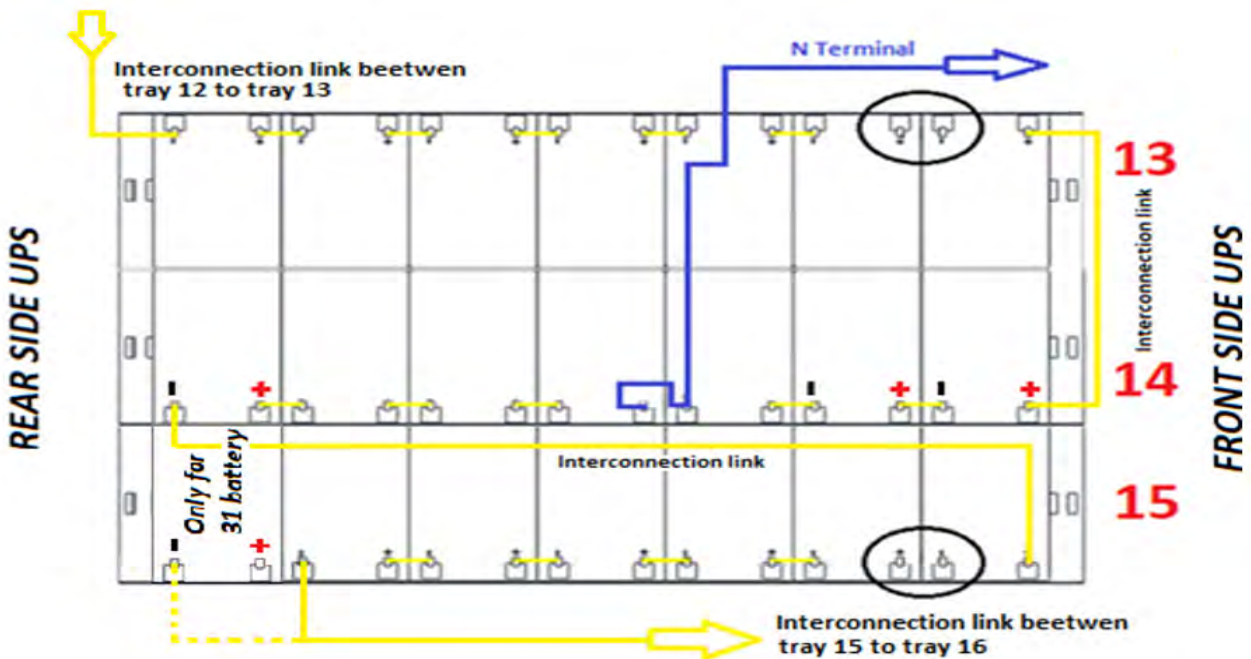

Figure 40 - View from above Level No.5 with battery connections
14) Wire the level as indicated in Figure 40. **Leave the circled jumpers disconnected.**